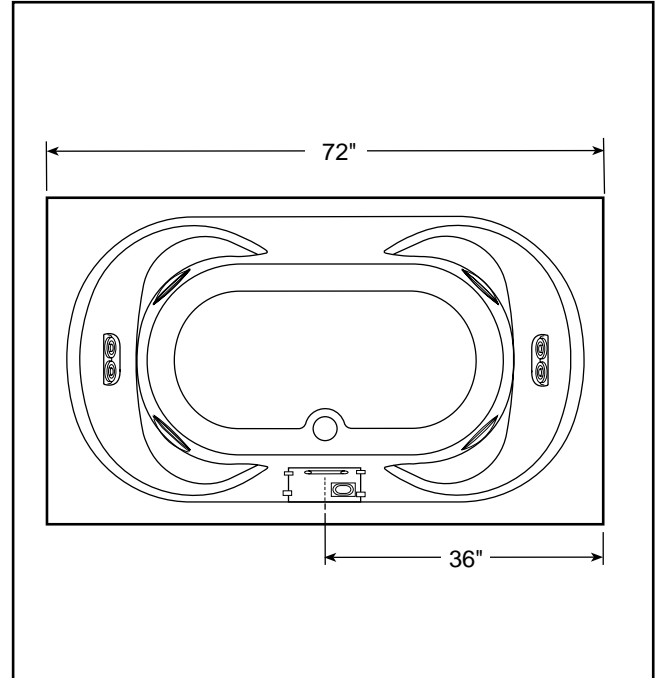

Figure 1. Locate template on bath.
2. Find center line of bath, mark and tape template in place as shown in Figures 1 & 2.